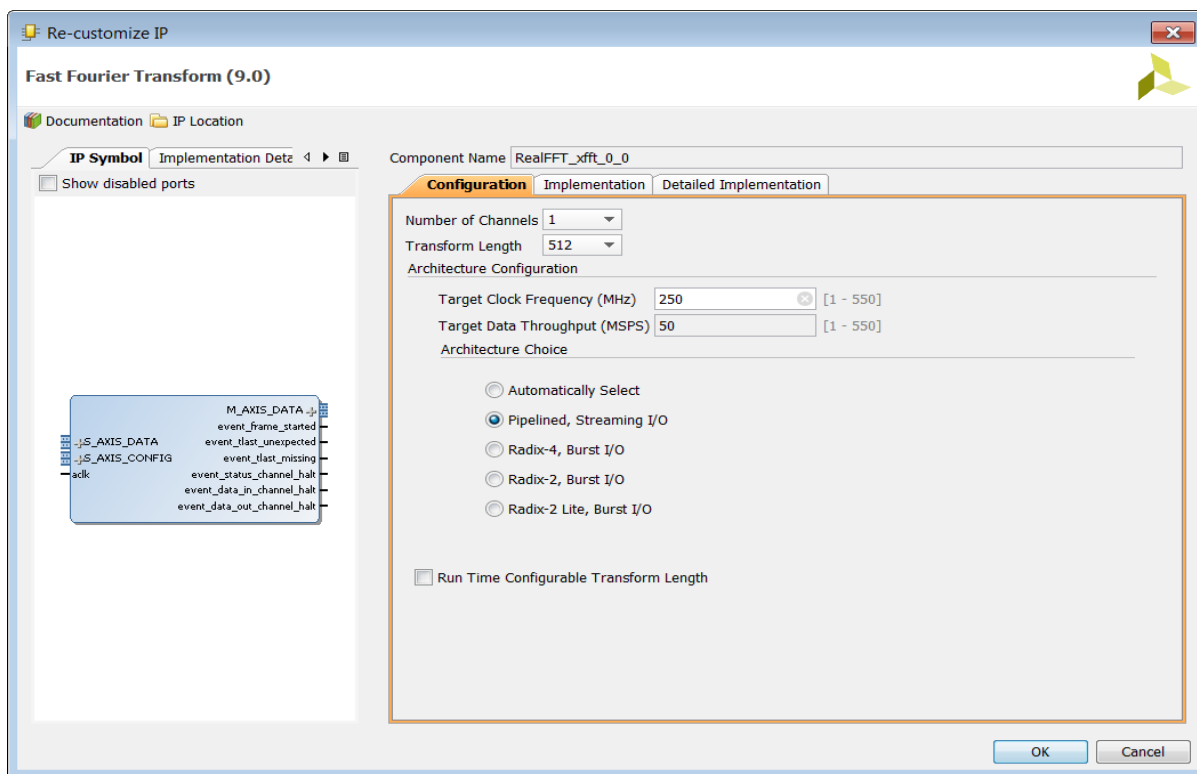

Figure 9-13: Xilinx FFT Configuration
4. On the **Configuration** tab (Figure 9-13):